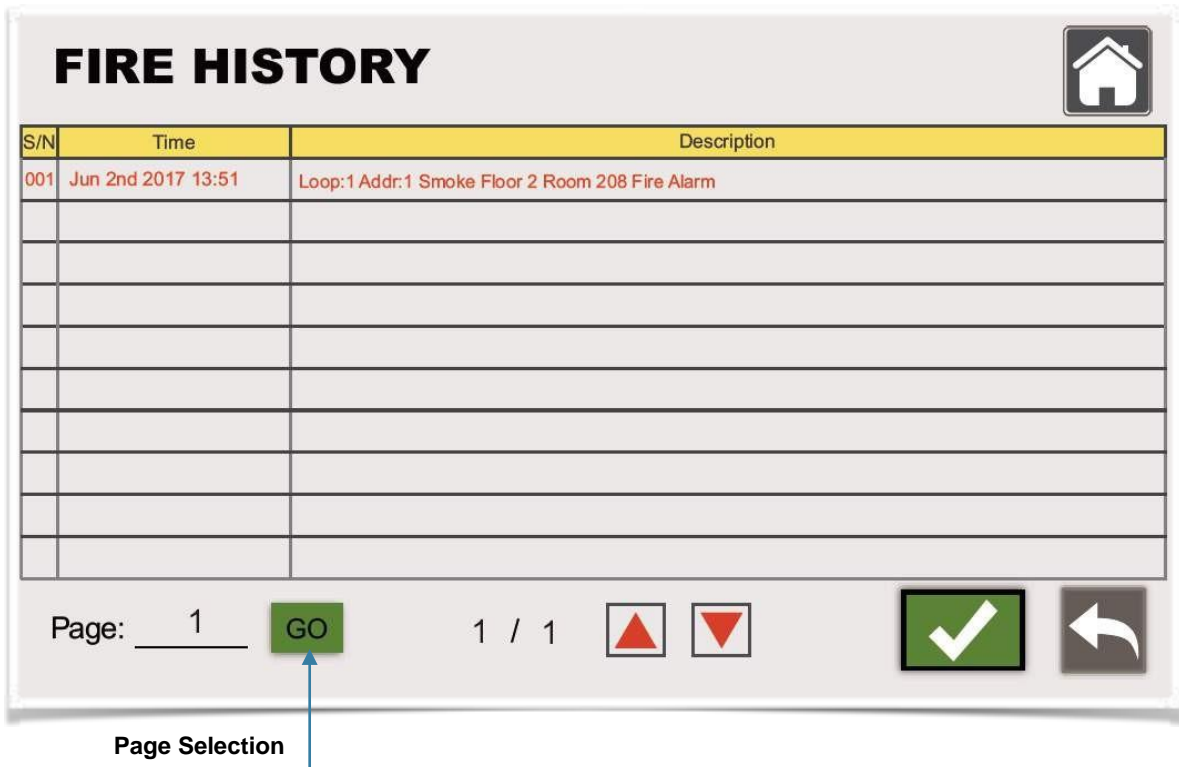

Figure 2.6 Fire History
- **Fire History** : Up-to 1000 events can be stored in this file and most recent one will be appeared on the top. As shown in Figure 2.6, this file includes the details of fire event i.e. description and time of the fire event. User can select any page by typing the page number and pressing **GO** touch button.